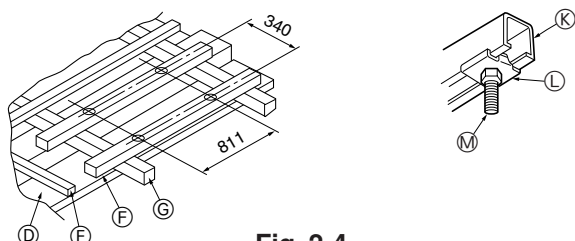

Fig. 2-4
#### ① Wooden structures (Fig. 2-4)